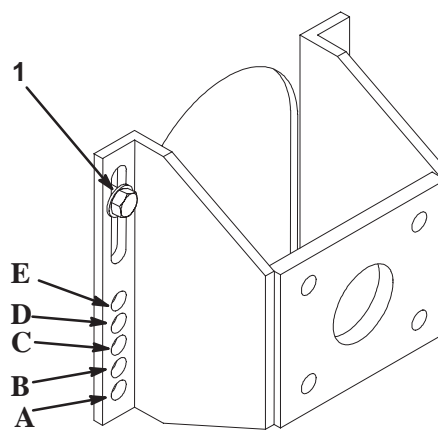

Figure 26
5. Loosen, but do not remove, the 2 axle pivot bolts (Fig. 26).
6. Remove the 2 axle adjustment bolts (Fig. 26).
7. Raise or lower the mounting bracket, so that you can install the 2 axle adjustment bolts in the desired hole location (Fig. 26). A tapered punch can be used to help align the holes.